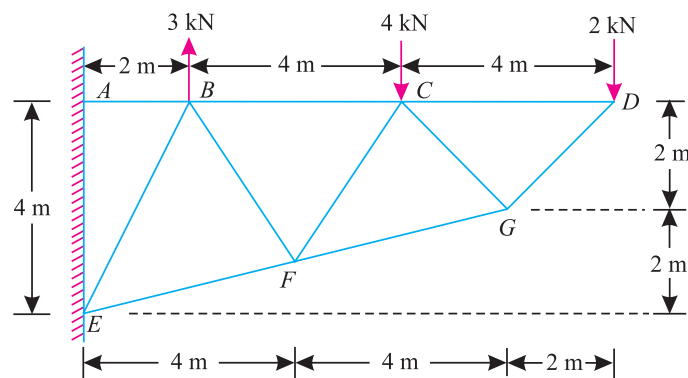

Fig. 13.35.
**Example 13.10.** A pin-jointed cantilever frame is hinged to a vertical wall at  $A$  and  $E$  and is loaded as shown in Fig 13.35.